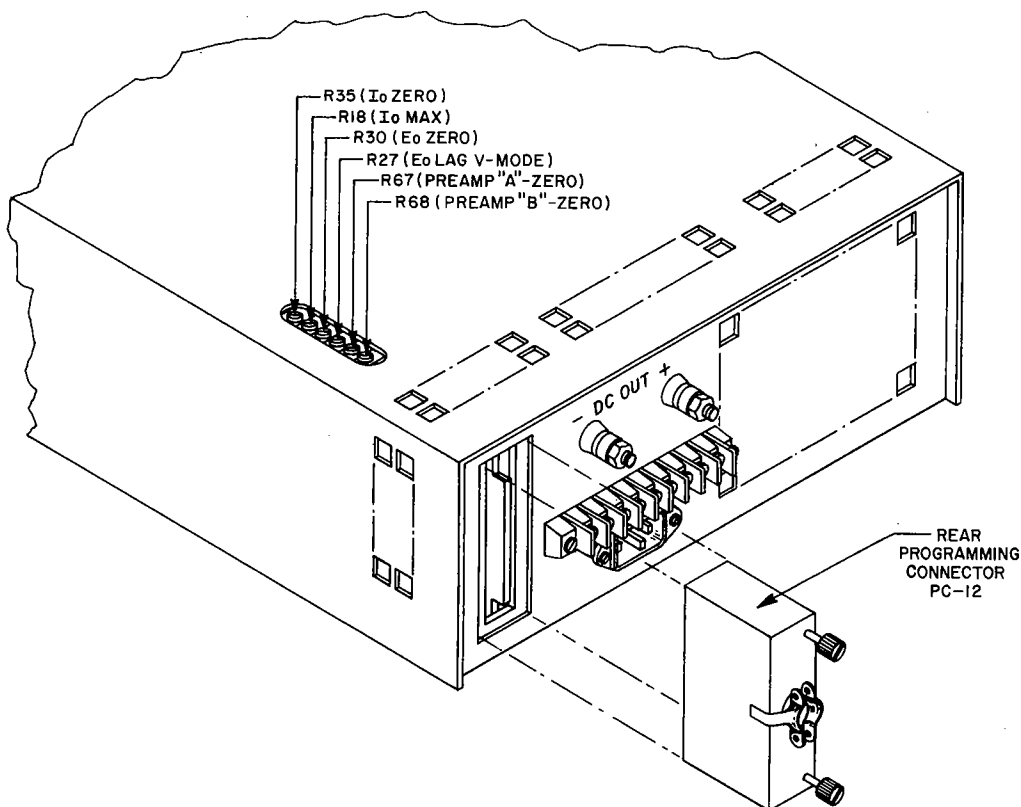

FIG. 2-1 LOCATION OF INTERNAL CONTROLS, ATE 3/4 RACK GROUP.
- c) INTERNAL CONTROLS: Refer to FIG. 2-1 and Table 2-1.
- 2-19 LAG NETWORK ADJUSTMENT. The ATE power supply operating in the "fast" mode, is dynamically stabilized by means of an internal lag network ( $E_o$  LAG, R27, see FIG. 2-1 for location). This control should be adjusted, for each application, by monitoring the load with an oscilloscope and turning the LAG control for best output response and maximum dynamic stability under all operating conditions.